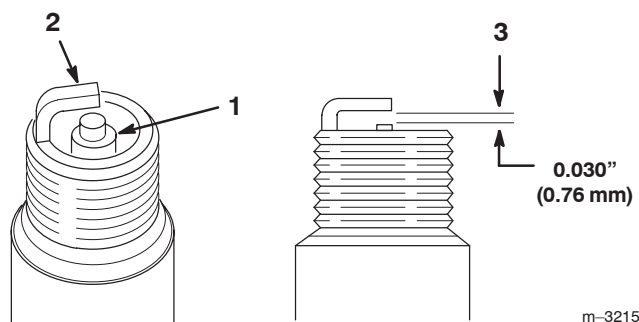

Figure 31
1. Look at the center of the spark plugs (Fig. 31).
2. Check the gap between the center and side electrodes (Fig. 31) and bend the side electrode, if the gap is not correct.